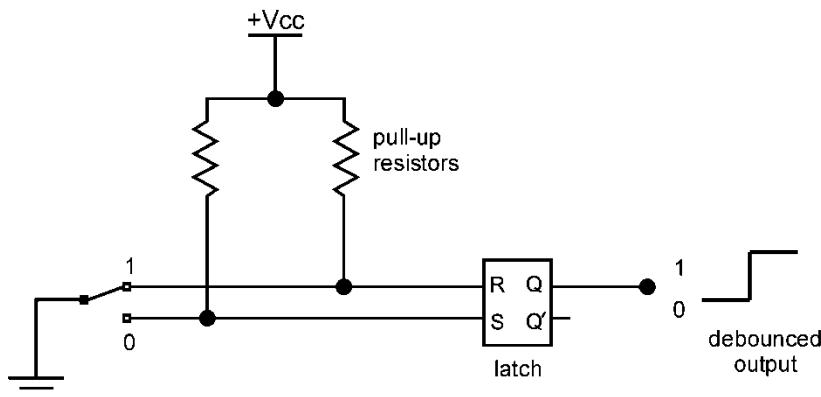

Figure C.1: Use of RS latch to debounce a mechanical switch
Hardware debouncing is the use of electronic circuitry to eliminate the effects of contact bounce. There are numerous versions of such circuitry, including those that use monostable multivibrators (one-shots), but the most straightforward is simply an RS latch. Figure C.1 shows the circuit. When the switch is in position 1, $R = 0$ and $S = 1$, so the latch is set and the output (Q) is 1. When the switch is in position 0, $R = 1$ and $S = 0$, so the latch is reset and the output is 0. When the switch is moved from one position to the other, the latch changes state and bouncing occurs at either the R or the S input. The bouncing does not affect the latch after it has change state. An RS latch will remain set, for example, when its R input is 0 and its S input is alternately changed from 1 to 0.